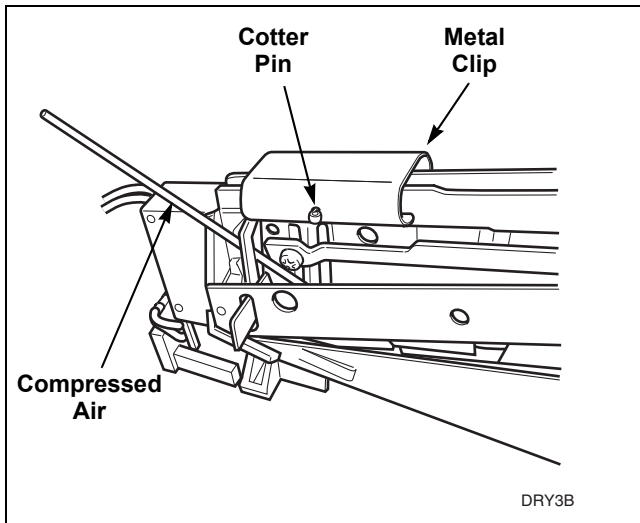

Figure 19
- If lint is preventing coins from rolling through coin drop, blow compressed air through coin drop, and along the side of the coin drop. Refer to *Figure 19*.
- Remove cotter pin from top of drop. Refer to *Figure 19*. Save pin for reinstallation when cleaning is complete.
- Move metal clip closer to sensor so that it comes off frame. Refer to *Figure 19*.